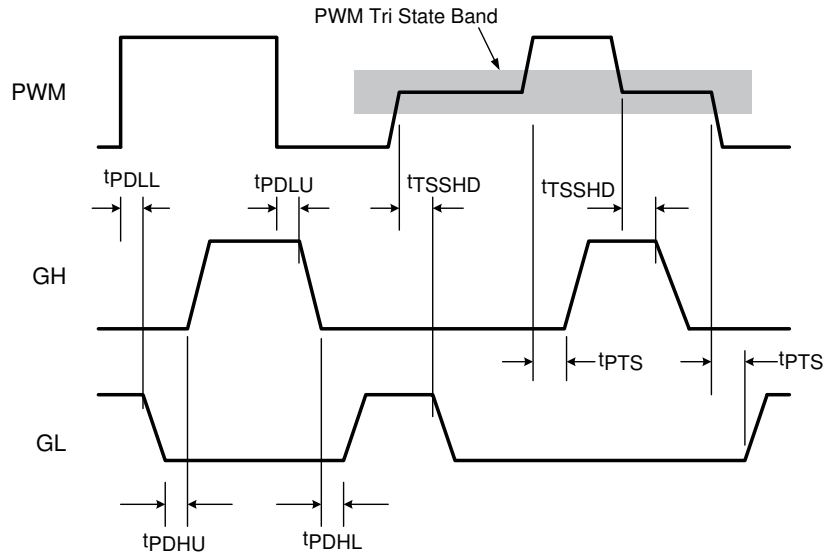

Figure 13. Timing Diagram
AOZ5066Q1 is offered in two versions which can be interfaced with PWM logic compatible with either 5V (TTL) or 3V (CMOS). Refer to Figure 13 for the timing and propagation delays between the PWM input and the gate drives. The PWM is also a tri state compatible input. When the input is high impedance or unconnected both the gate drives will be off and the gates are held active low. The PWM Threshold Table (Table 1) lists the thresholds for high and low level transitions as well as tri state operation. As shown in Figure 13, there is a hold off delay between the time PWM signal enters the tri state window and the corresponding gate drive is pulled low. This delay is typically 170ns and intended to prevent spurious triggering of the tri state mode which may be caused either by noise induced glitches in the PWM waveform or slow rise and fall times.
**Note:** See Figure 13 for propagation delays and tri state window.